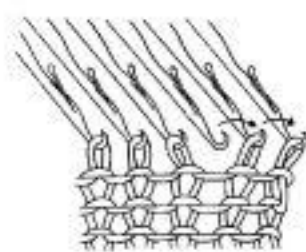

Fig. 41-1
- Using the double eye Transfer Tool transfer the first two stitches so that the first stitch is on the empty needle and the second stitch is on the adjacent needle, (Fig. 41-1) leaving the third needle empty.